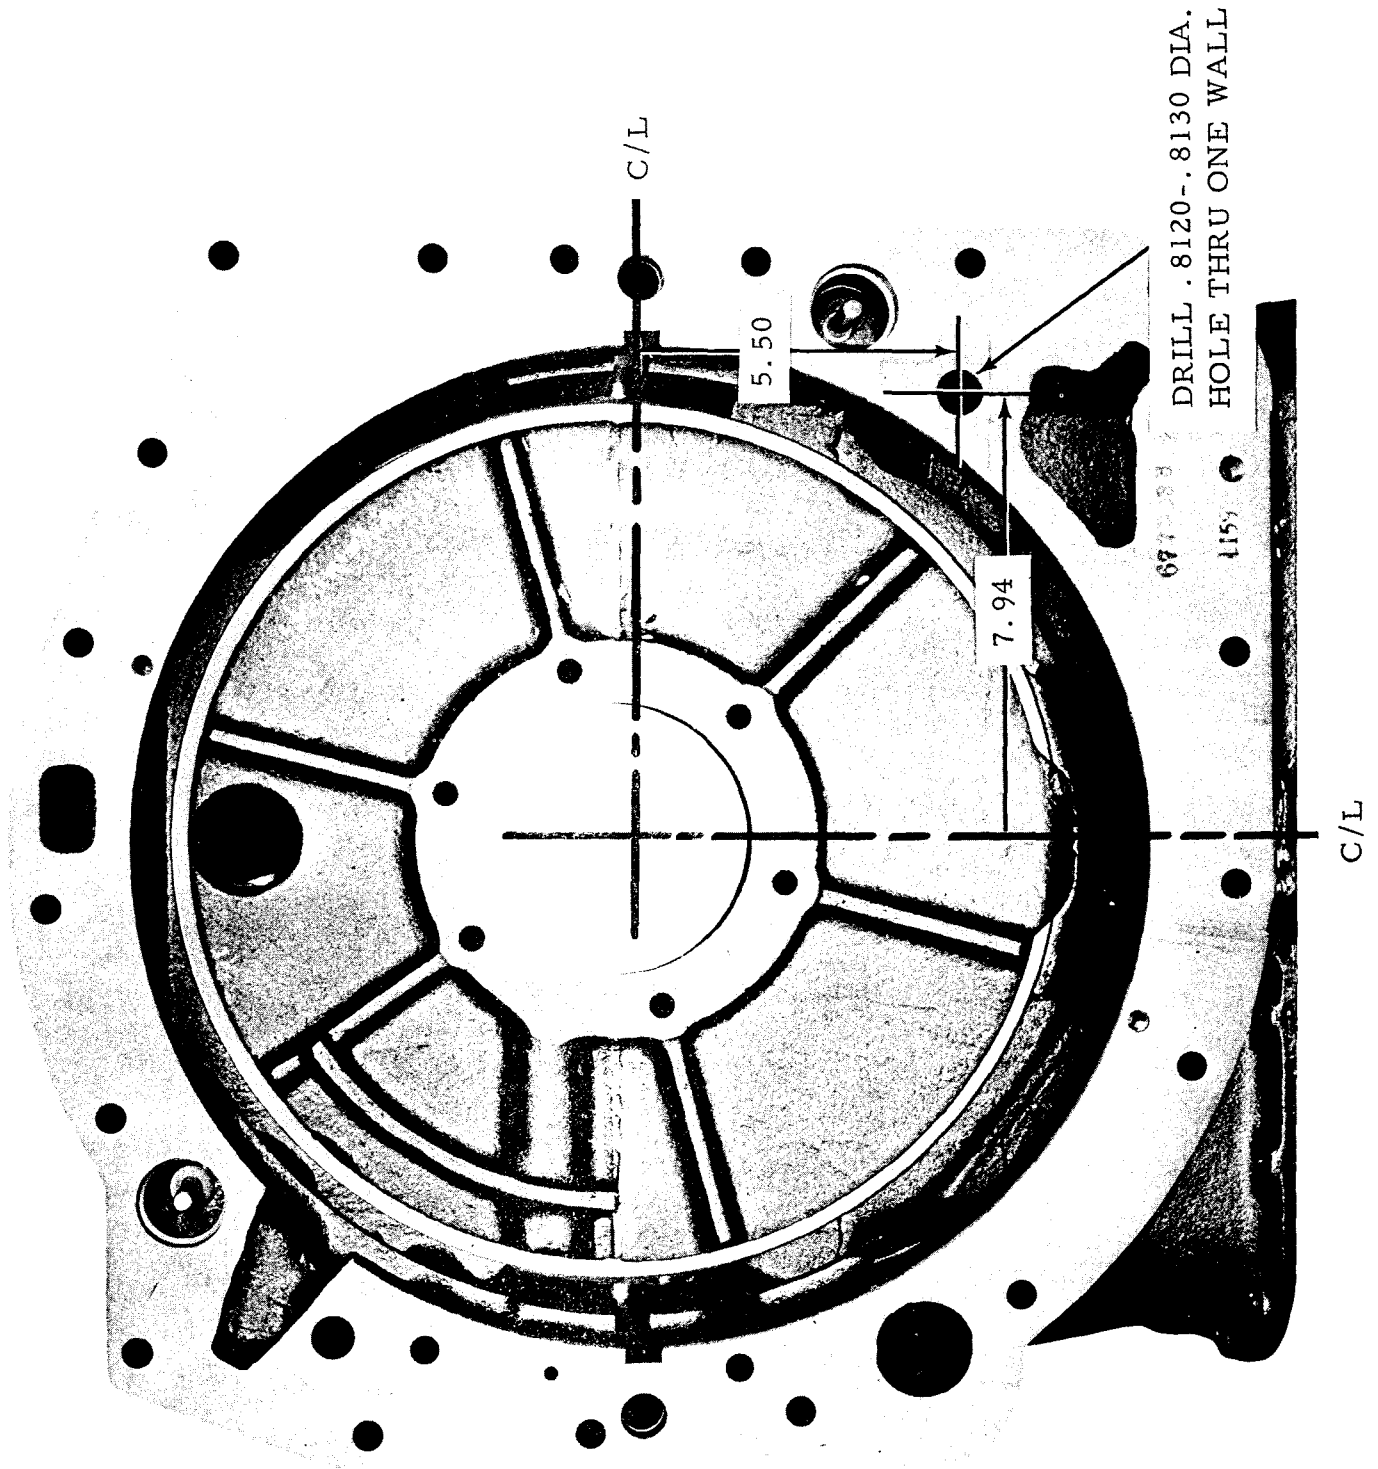

FIGURE 3. TRANSMISSION HOUSING-REWORK AREA
1. Locate and drill 0.8120-0.8130 inch diameter hole thru one wall. Refer to Figure 3.